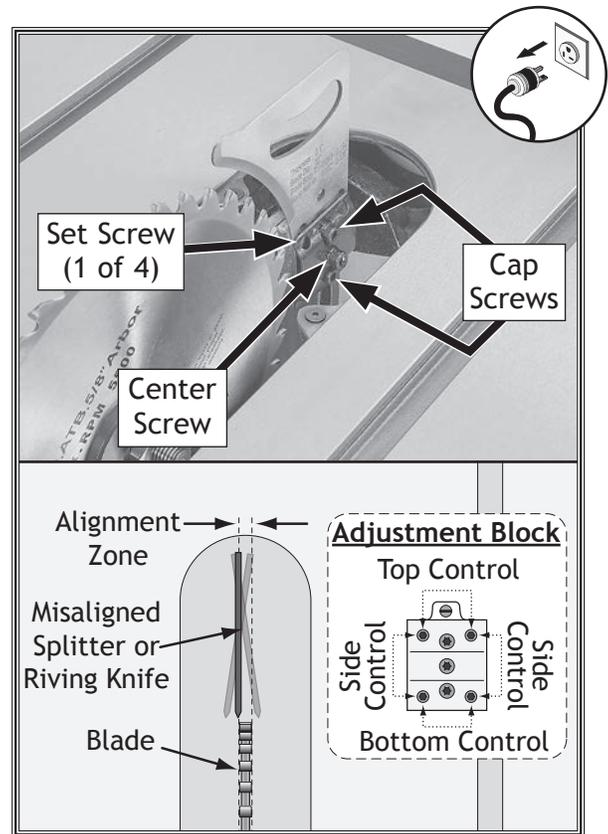

Figure 117. Set screws for adjusting spreader/riving knife position.
3. Loosen (2) cap screws on mounting block, then adjust either top or bottom control set screws or side control set screws (see **Figure 117**) to move it the needed direction.